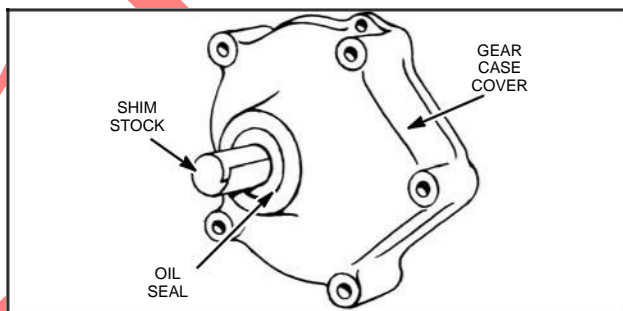

Fig. 126
3. Assemble drive shaft and gear with bearing cones by placing a piece of shim stock or card in oil seal to serve as a guide and protect oil seal, Fig. 126. Next place roller bearing cup into recess of gear case cover. Then insert drive shaft through oil seal.